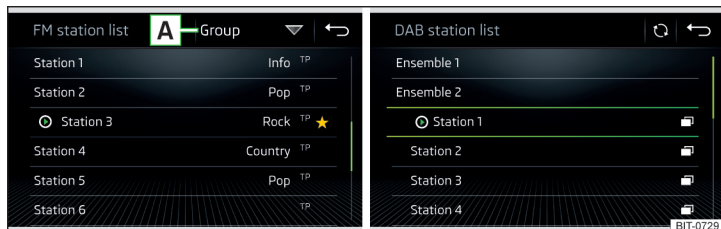

Fig. 193 Example, the list of available FM/DAB stations
- ▶ To **Sort** (FM) the stations in alphabetical order, by group or genre, tap on the function surface A » Fig. 193 » ! .
- ▶ To **filter** the stations based on the program type (e.g. Music, Sport etc.) in the FM station list (with activated RDS function) and the DAB station list (with alphabetical sorting of the channel list selected), tap the function surface A » Fig. 193.
- ▶ To **manually** update, the tap on functional surface C » Fig. 193.